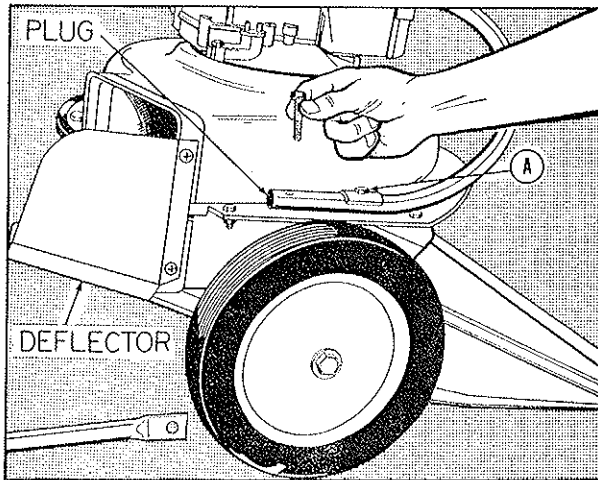

Fig. 1
1. Swing deflector down and fasten in place with the four Phillips screws provided. See Fig. 1.
2. Remove bolt at point "A", Fig. 1, on both sides of sweeper. Also remove bolt which holds steel plug in end of lower handle. Position lower handles on sweeper and replace bolts and nuts as they were.